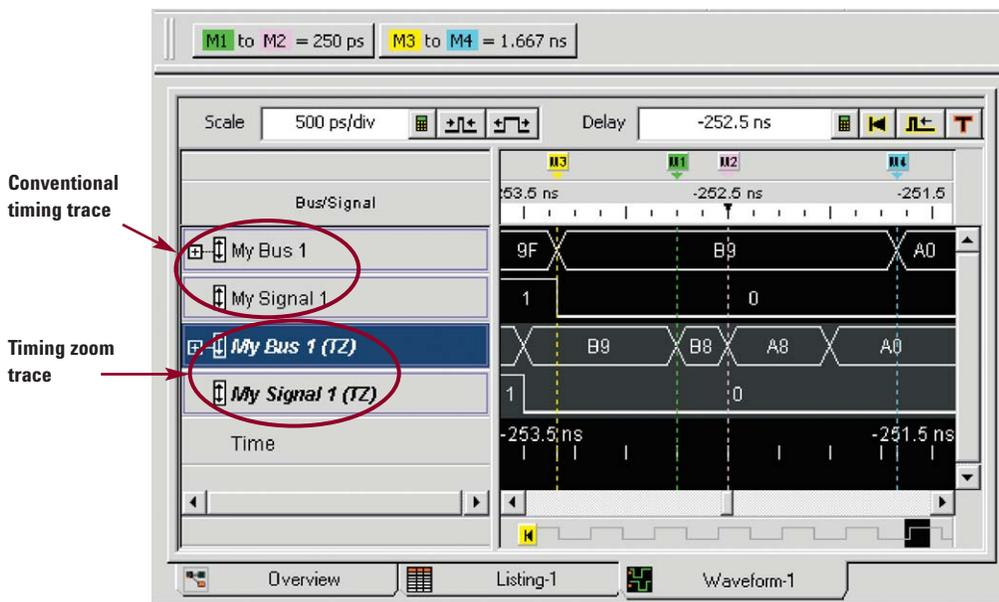

Figure 1. 4-GHz timing trace versus conventional timing trace
Figure 1 shows the timing zoom trace labeled "My Bus 1 (TZ)" in the logic analyzer's waveform display. A timing zoom trace provides more information. Data B8 and A8 were captured in timing zoom and not in the conventional timing trace. In this example, in conventional timing, we are sampling every 4 ns, yet with timing zoom we are sampling every 250 ps. In the 2-ns timing frame, timing zoom shows transitions on the bus that may be glitches in the system under test.